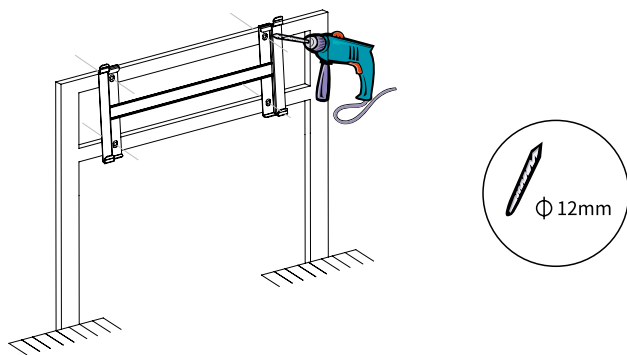

Figure 4-5 Mark the hole position and drill holes
- 2) Use an electrical drill with 12mm diameter bit to drill 4 holes on the installation bracket. See Figure 4-5 for details: